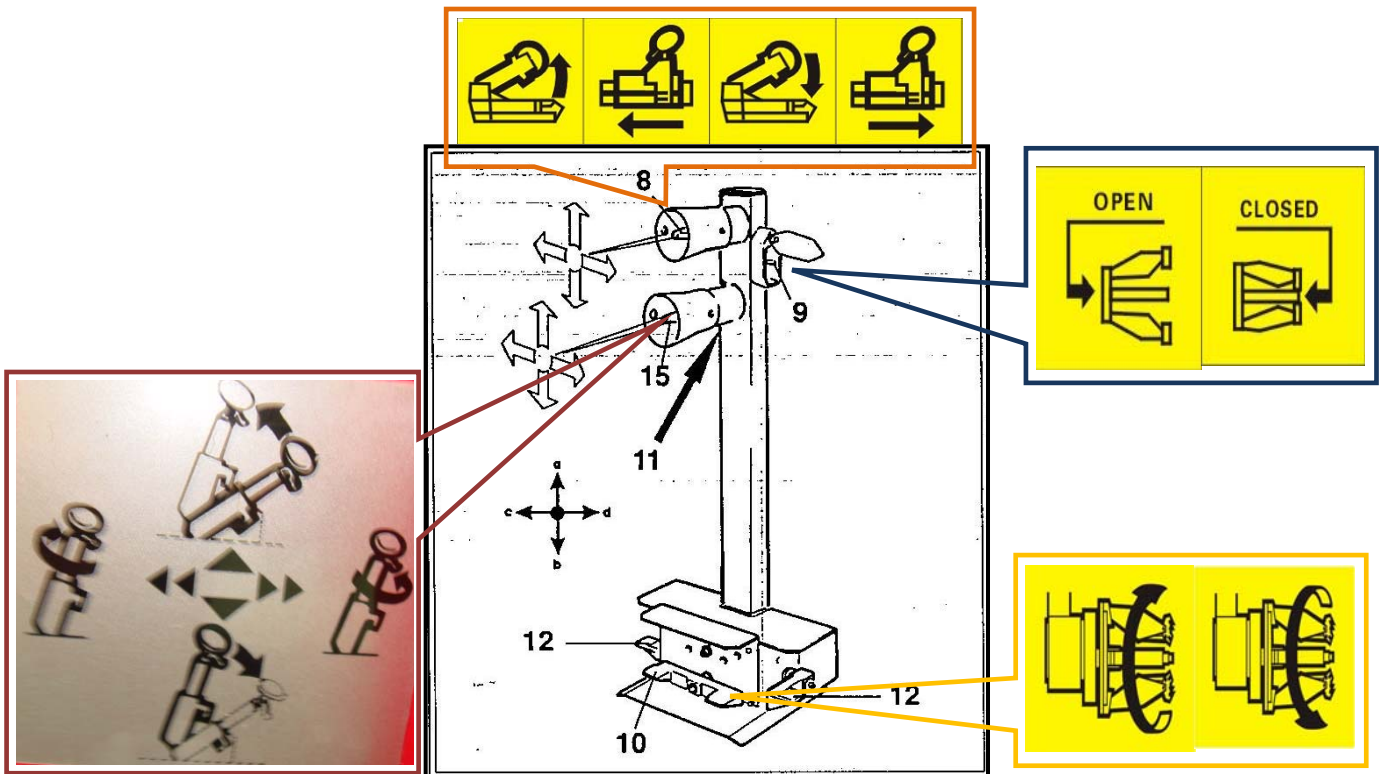

Fig.6.2
The mobile control centre (Fig.6.2) enables the operator to work at any position around the machine. On this mobile control centre the following controls are located:
1. **The top joystick (8, Fig.6.2)** which in **position a** lifts the chuck arm and in **position b** lowers it; in **position c** moves the chuck rightwards and the tool holder arm leftwards simultaneously (so they get nearer each other) and in **position d** moves the chuck leftwards and the tool holder arm rightwards (so they get farther each to the other).